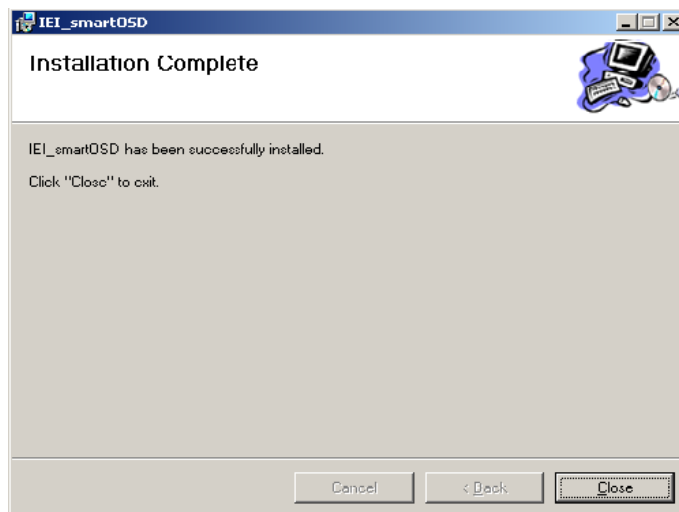

Figure 8-7: smartOSD Installation Complete
Step 11: When the installation is complete the “Complete Installation” screen in Figure 8-7 appears.